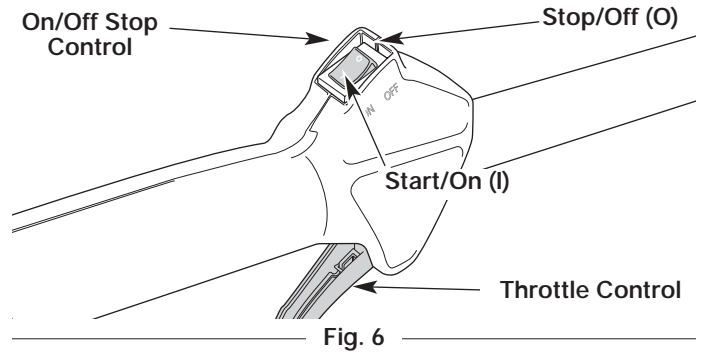

Fig. 6
2. Make sure the On/Off Stop Control is in the **ON (I)** position (Fig. 6).
2. Move the On/Off Stop Control to the **OFF (O)** position (Fig. 6).